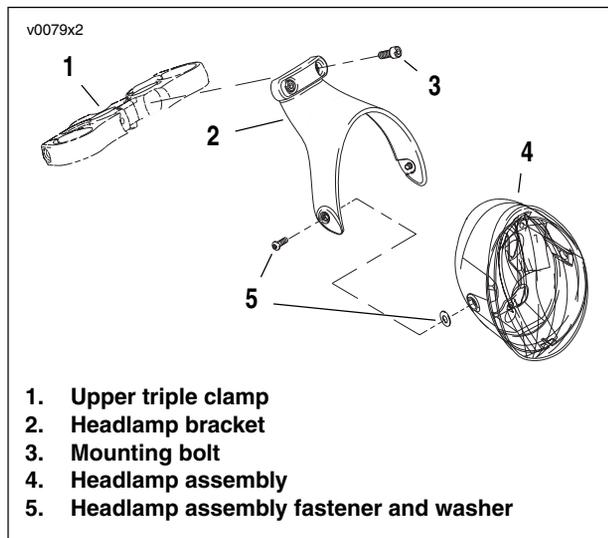

Figure 2-61. Headlamp Bracket and Headlamp Assembly
10. See Figure 2-61. To free lower end of top handlebar cover, loosen mounting bolts (3) holding headlamp bracket (2) to upper triple clamp (1).
4. Orient instrument bezel and fit bezel hook over tab on lower handlebar cover. Gently tilt bezel (1) and top handlebar cover (2) until bezel hook snaps onto tab.
5. Fit top cover (2) under headlamp bracket. Bezel edge should fit snugly to grooved rim of lower and upper cover.
6. Install fasteners (7) that hold top handlebar cover (2), instrument bezel (1), and capture instrument cluster (9). Tighten fasteners to 1.3-1.9 Nm (12-16 in-lbs).
7. See Figure 2-61. Tighten headlamp bracket (2) fasteners (3) to 11-18 Nm (9-13 ft-lbs).